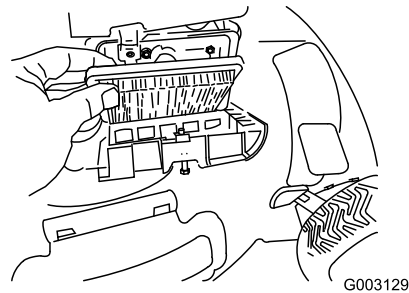

Figure 27
4. Install the cover (Figure 27).